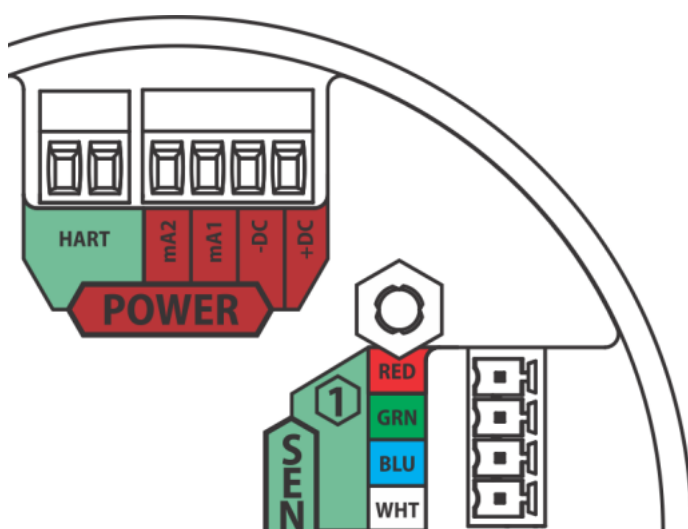

Fig. 31 Power, HART, and Sensor Inputs
- (1) Remove the ULTIMA X5000 cover by turning counter-clockwise.
- (2) Pull on the metal bail, removing electronics, to expose sensor and power connections.
- (3) Remove the red colored power connector.
- (4) Use a small, flat head screw driver to open wire entries on the connector.
- (5) Strip cable jacket to expose shield and the four individual wires.
- (6) Connect the power and analog output wires. Wire locations are marked on the cover plate (see Fig. 31):